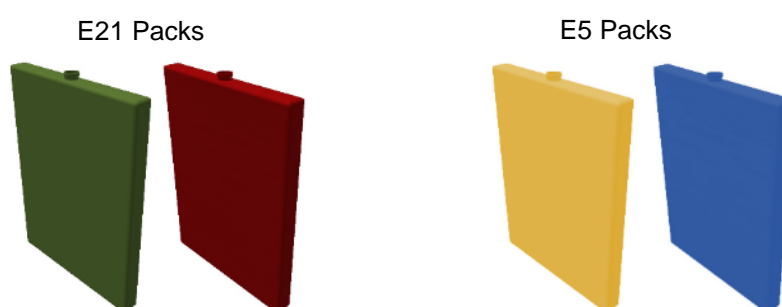

Fig. 5 – Freezer and Refrigerator Eutectic Packs
- Use the sets with 8 units (green and red or yellow and blue) in the same color so as to distinguish the sets (Fig. 5).